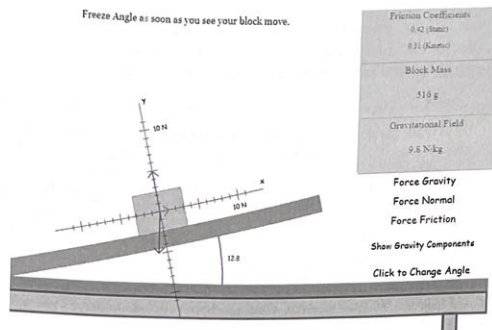

Figure 3: Simulation window for studying friction using an inclined plane. The user can adjust the incline angle θ .
8. Next, you will use the Physics Aviary app found here (see Fig. 3) to study friction using an inclined plane and an object that begins at rest. Start the simulation and record the value of coefficient of static friction provided.
10. Use a free body diagram and Newton's 2nd Law to derive a general expression for the minimum incline angle θ_{min} needed for the object shown in Fig. 3 to "break away" and start moving down the ramp. Your general expression should include the coefficient of static friction. Clearly show your work.